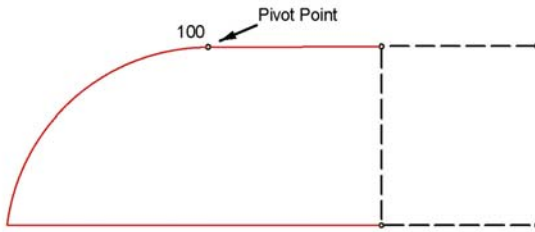

Figure 13-91. Pivot Point 100 for Computation of Second Lot
- Click on an arc or a point (Figure 13-91 on page 13-80).
In Figure 13-91, the second lot is set to pivot around the point 100 at the node where the arc joins the top boundary line.